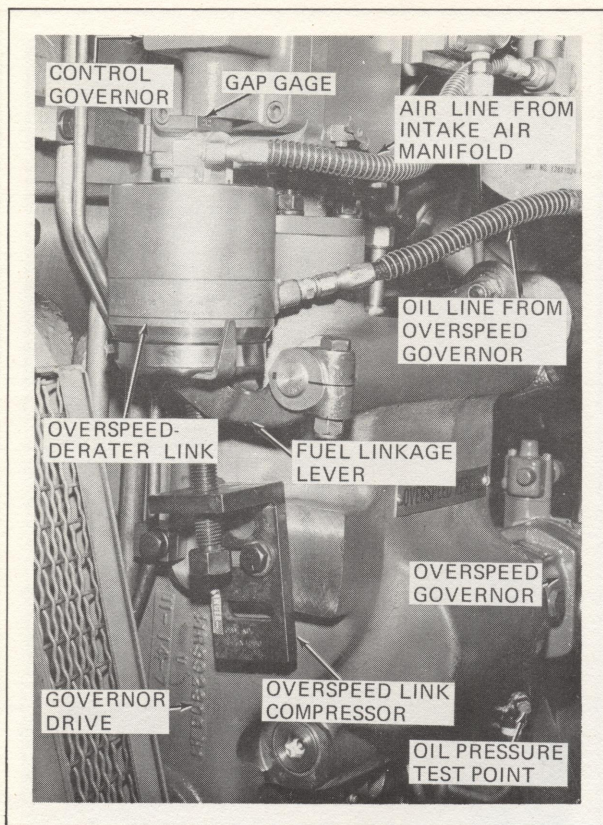

FIG. IX-34. OVERSPEED-DERATER LINK WITH ENGINE SHUT DOWN AND RACK-SETTING TOOLS APPLIED.
- a. Install the overspeed link compressor, Part 147X1580, on the side of the governor drive gear unit, Fig. IX-34.